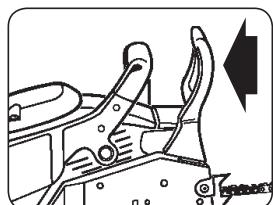

Fig. 5A
1. The chain brake is disengaged (chain can move) when brake lever is pulled back and locked (*Fig. 5A*).